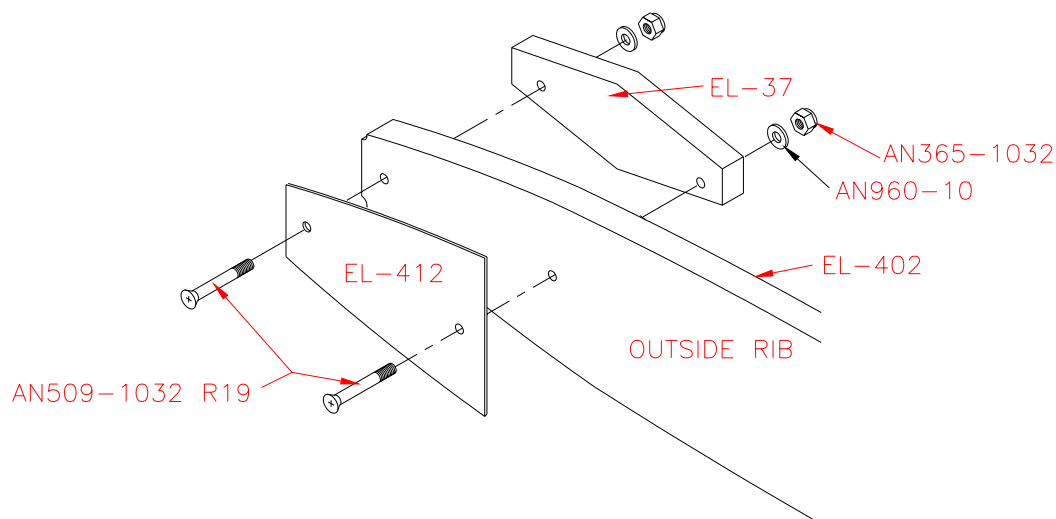

Figure 3.6.2
weights and plates. **NOTE:** You can use the 3/16" tooling hole on the ribs as the location for one of the holes. Locate and drill the second 3/16" hole through the rib. Figure 3.6.2 and 3.6.3.
- 10) Assemble the tip weights and backing plates to the ribs as per figures 3.6.2 and 3.6.3.